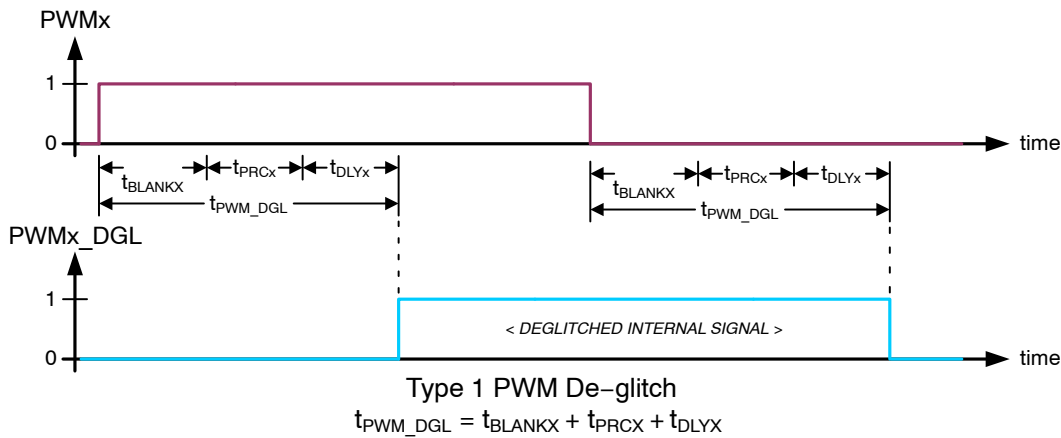
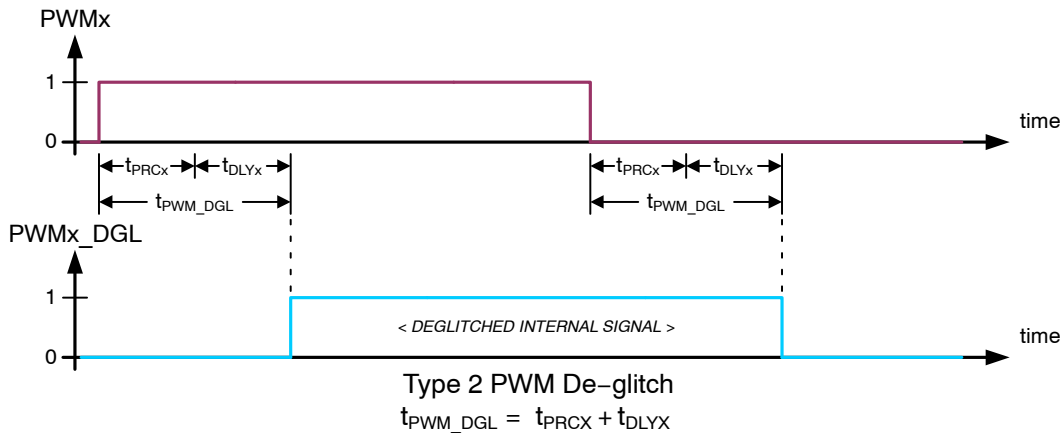

Figure 10. Type 1 PWMx Input De-glitch – CR14.DGLx = 0
Figure 11. Type 2 PWMx Input De-glitch – CR14.DGLx = 1
When multiple PWMx inputs are needed to be active, the scheduled PWM signals should be offset in time to avoid degradation of the VDS overload detection due to crosstalk (see § *Overload Protection*). The minimum offset should be based on the tPWM\_DGL times appropriate for the respective channels (see § *Switching Behavior of Half-bridge Drivers*, Figure 10 and Figure 11).
- adaptive PWM input de-glitch construction when in half-bridge configuration is selected by DGLx[6:0] bits (see Figure 10, Figure 11, Table 21 and Table 22).
When operating HB1...HB7 in PWM mode and in half-bridge configuration, type 1 de-glitch is selected when CR14.DGLx = 0 (see Figure 10) and the adapted time is given by:
Type 2 de-glitch is selected when CR14.DGLx = 1 (see Figure 11) and the adapted time is given by:
- the PWMx\_DGL resulting from the channel's operating configuration (see § *Switching Behavior of Half-bridge Drivers*, Figure 10 and Figure 11);